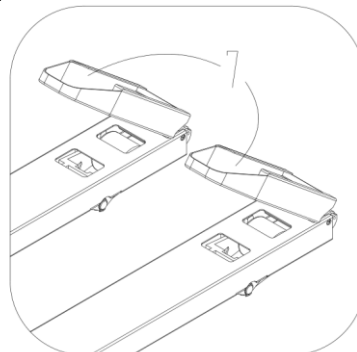

Figure. 6
- 5.2 As shown in Figure 6, the fork tip 7 is foldable which enables the truck to work in a narrower place.